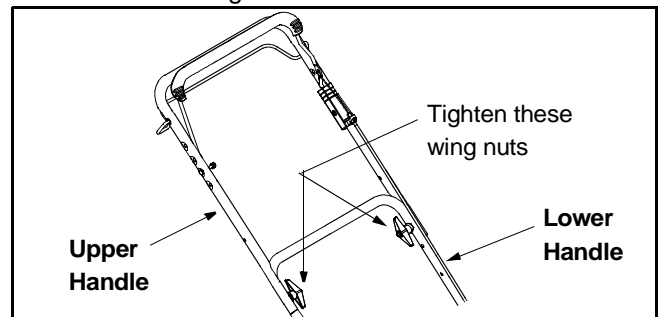

Figure 3
- Tighten the two wing nuts which are already on the handle. See Figure 3 .